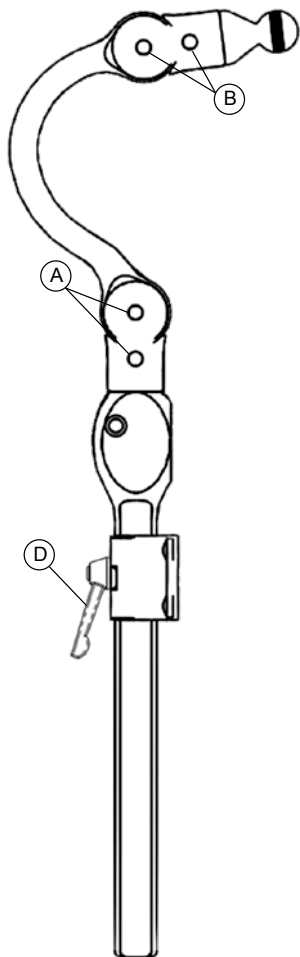
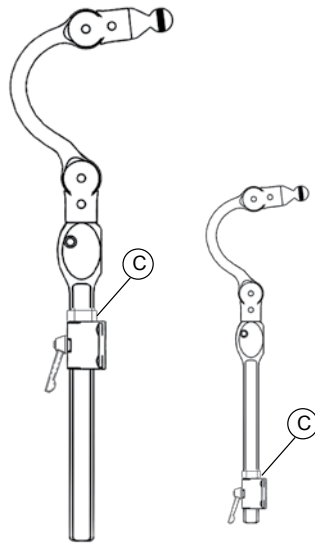
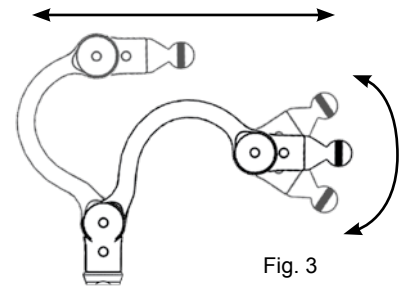
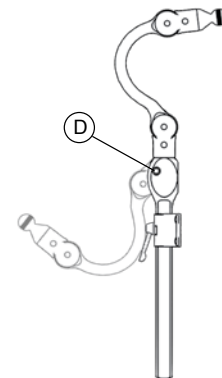

Fig. 1
Fig. 2
Fig. 3
Fig. 4
1. Assemble as shown in Fig. 1.
1. Vertical - Loosen the lever knob (Fig. 1, E) and adjust to the proper height and then lower the stop collar (Fig. 1, C). Vertical rod may be rotated for additional angle adjustment of pad/base plate assembly.
2. Depth and Angle Adjustment - Loosen 3 adjustment screws (Fig. 1, B) for depth and angle adjustment (Fig. 4&5). Rotate horizontal rod 180° for increased angle adjustment (Fig. 3). Reverse vertical rod 180° for increased adjustment (Fig. 3).
1. Assemble and position as shown in Fig.1. Index pin on anti-rotational collar (Fig.1,C) fits in to slot in top of detach receptacle (Fig.1, D) to prevent rotation.
1. Vertical - Loosen the lever knob (Fig. 1, E) and adjust to the proper height and then lower the stop collar (Fig. 1, C) be sure to align the index pin in the slot on the detach mount. (Fig. 1, F) Vertical rod may be rotated for additional angle adjustment of pad/ base plate assembly.
2. Horizontal / Vertical – Loosen clamp screws (Fig. 1, A & B) for depth and height adjustment (Fig. 2).
1. Vertical - Loosen the lever knob (Fig. 1, D) and adjust to the proper height and then lower the stop collar (Fig. 2, C). Vertical rod may be rotated for additional angle adjustment of pad/base plate assembly.
2. Depth and Angle Adjustment - Loosen adjustment screws (Fig. 1, A & B) for depth and angle adjustment. Note angle adjustment shown in Fig.3.
3. To flip the headrest back push button (Fig. 4, D) and swing unit back.
1. Unsnap horizontal pivot cover (Fig. 2, B). Angle T-handle or ball driver beneath tab and push up and outward. Refer to Fig. 1. Index pin on anti-rotational collar (Fig. 1, C) fits in to slot in top of detach receptacle (Fig. 1, D) to prevent rotation.
1. Vertical - Loosen the lever knob (Fig. 1, F) and adjust to the proper height and then lower the stop collar (Fig. 1, C) be sure to align the index pin in the slot on the detach mount. (Fig. 1, G) Vertical rod may be rotated for additional angle adjustment of pad/base plate assembly.
2. Horizontal / Angle – Loosen pivot bolts (Fig. 1, A) for depth (Fig.4) and angle (Fig.3) adjustments. It is not necessary to fully tighten all screws until final position is achieved.
4. Snap horizontal pivot cover (Fig. 2, B) in place.